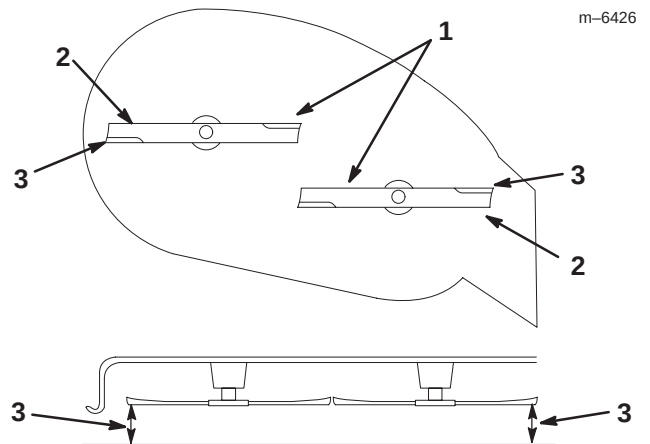

Figure 39
5. Carefully rotate the blade(s) side to side (Fig. 39). Measure between the outside cutting edges and the flat surface (Fig. 39). If both measurements are not within 3/16 inch (5 mm), an adjustment is required; refer to steps 6 through 8.